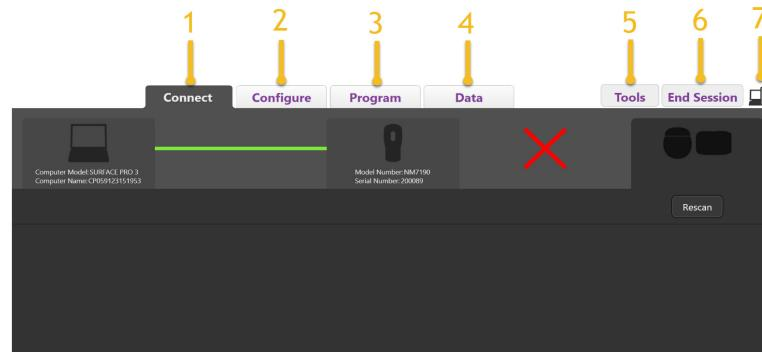

Figure 3. Connect Tab
4. Upon starting Vercise Neural Navigator, the screen will show the **Connect Tab** and the software will automatically attempt to connect to a Stimulator (Figure 3).